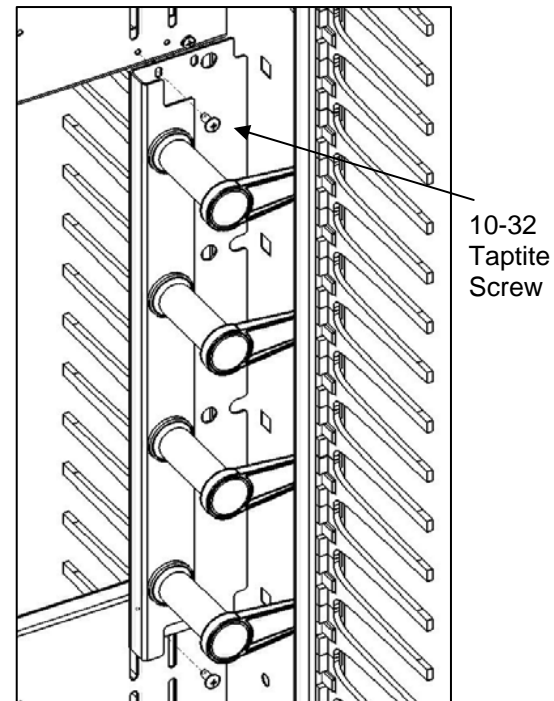

FIGURE 1
- a. Insert the 10-32 screws through the slots in the Fiber Segregation Bracket closest to the indexing spool as shown in Figure 1.
- b. Attach the assembly using the second mounting holes in the Mid-Section from the side panels as shown in Figure 1. Edge of bracket should nearly touch side panel.